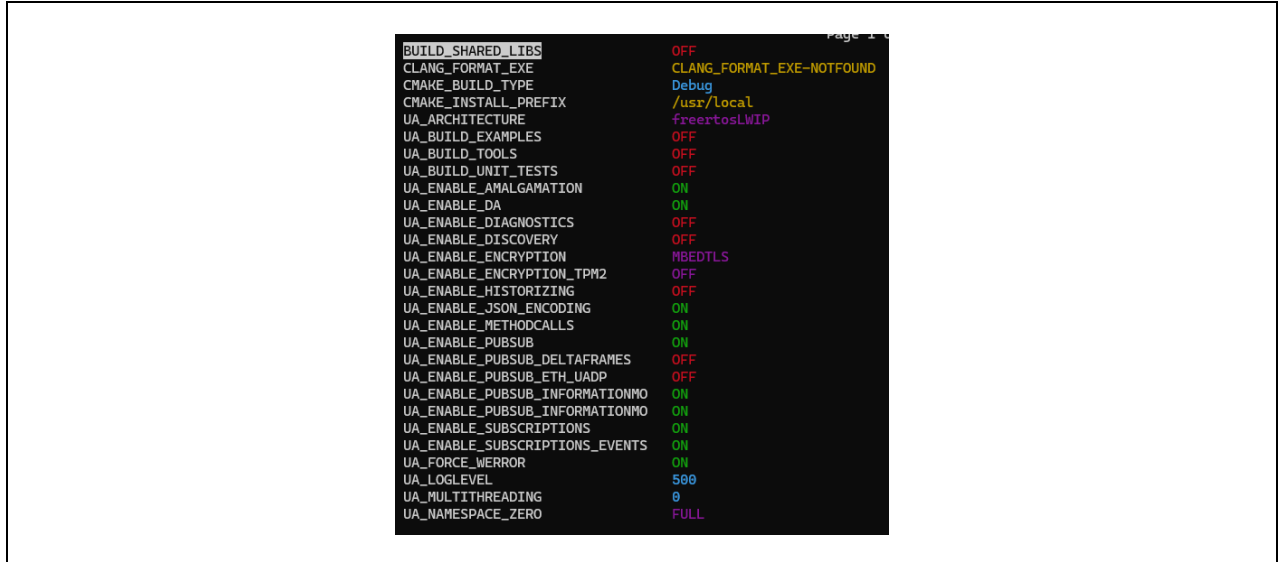

Figure 9.14. cmake configuration
20) After changing the settings as Figure 9.14, press [t] toggle advanced mode and change “UA_ENABLE_NODEMANAGEMENT” to “OFF” and “UA_ENABLE_PUBSUB_ENCRYPTION” to “ON”. After executing [c] to configure, close it by [q] to quit without generating.